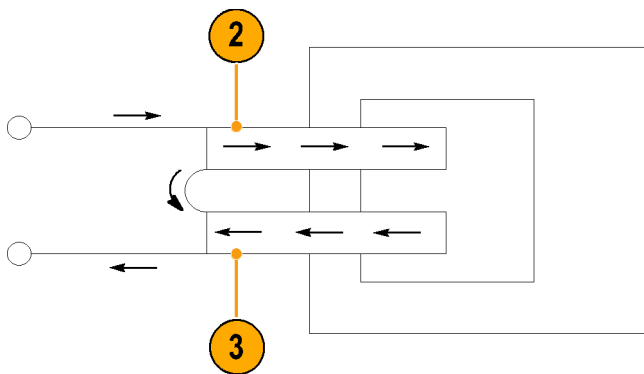

Figure 24: Turns measurement using reference coil
3. Insert the test coil into the current probe so that the currents oppose each other as shown. (See Figure 24.)